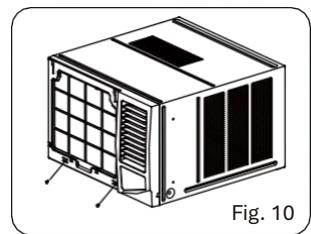

Fig. 10
2. Press on both sides and the lower edge of the frame, and fix it with the two screws at the bottom of the frame (see Fig. 10).